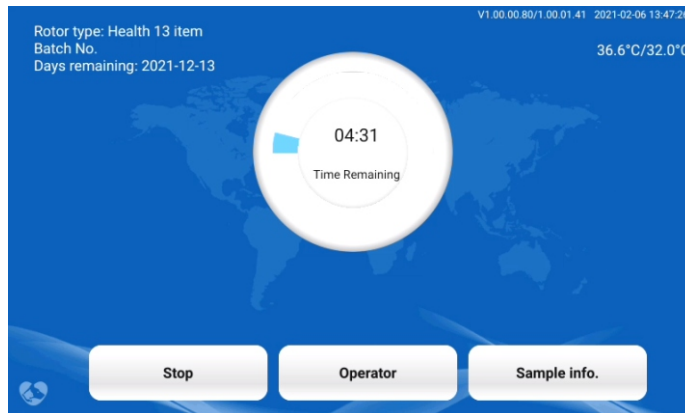

Figure 5-7
- 4) Press “Start Test” icon, the drawer will be closed, and the analyzer will read the two-dimensional bar code and enter into testing screen, seeing Figure 5-7.